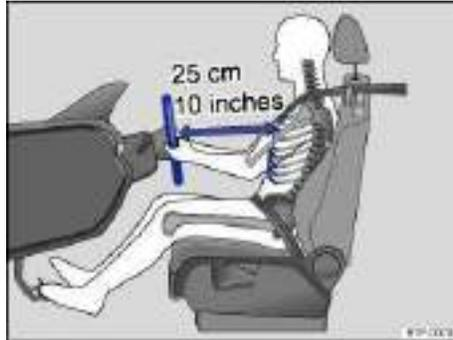
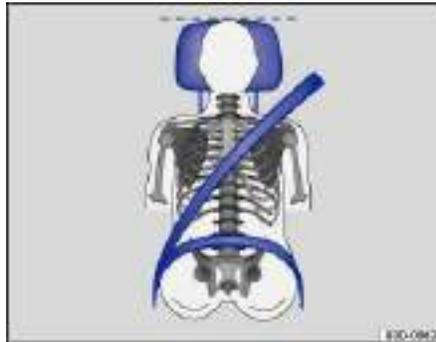

Fig. 40 The driver should never sit closer than 10 inches (25 cm) of the steering wheel.
Fig. 41 Proper safety belt positioning and head restraint adjustment.
- Adjust head restraints so that the upper edge of the head restraint is at least at eye level or higher. Position the back of your head as close as possible to the head restraint ⇒ fig. 40 and ⇒ fig. 41.
- Adjust the steering wheel so that there are at least 10 inches (25 cm) between the steering wheel and your breast bone ⇒ fig. 40. When adjusting the proper distance to the steering wheel, grasp the top of the steering wheel with your elbows slightly bent.